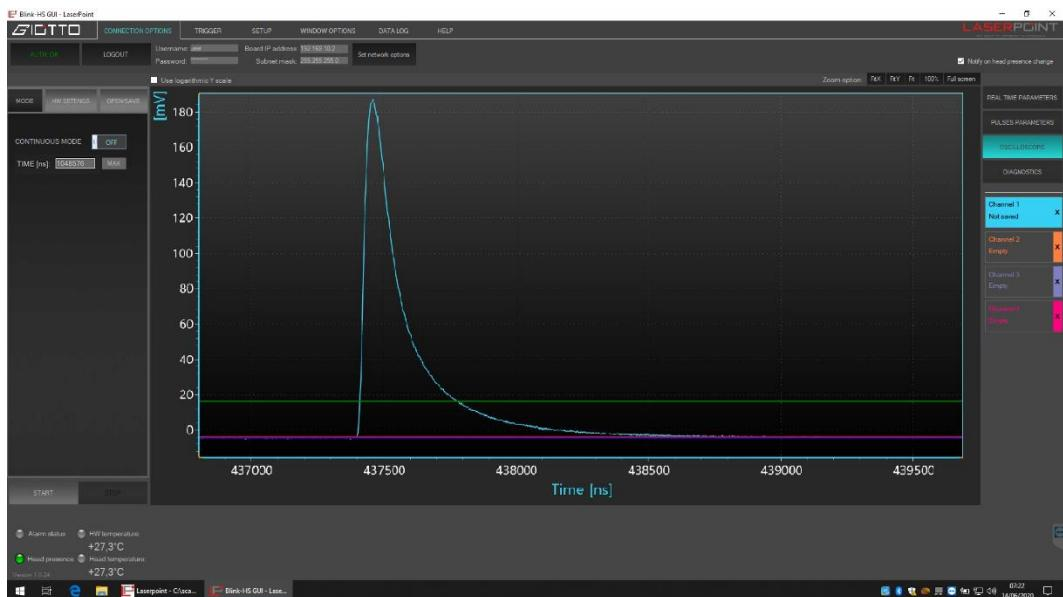

Figure 39
1. Pulse shape of 355 nm laser (**fig.39**)